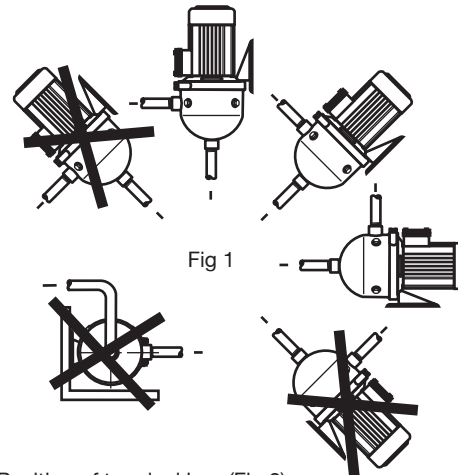

Fig 1
- The pump may be installed as shown in Fig 1.